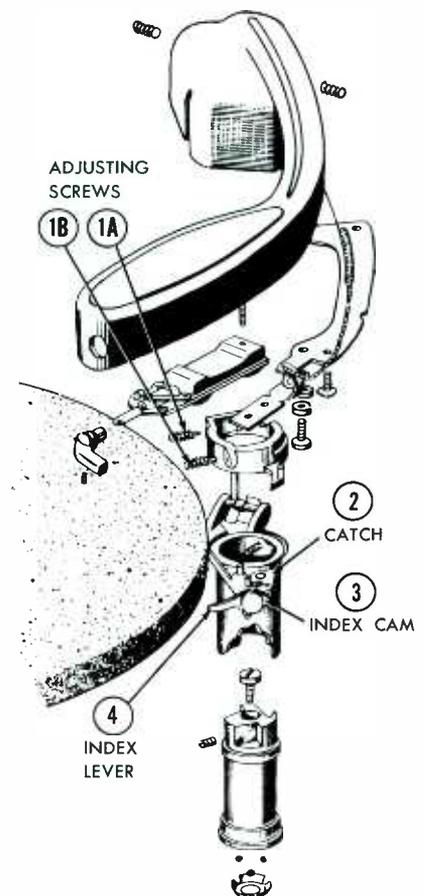

Fig. 3. Tone-Arm Assembly of the V-M 400 Series Changer.
5. The set-down position of the needle is adjusted by means of the two adjusting screws (1A) and (1B), as shown in Fig. 3. If the needle is setting down too near the edge of the record, loosen the back screw (1A) about 1/4 turn and tighten the front screw (1B) to lock the adjustment in place. If the needle is setting down too near the center of the record, loosen the front screw (1B) and tighten the back screw (1A). When correct set down is obtained for the 10-inch position, the 12-inch and 7-inch needle set-down points will also be correct.